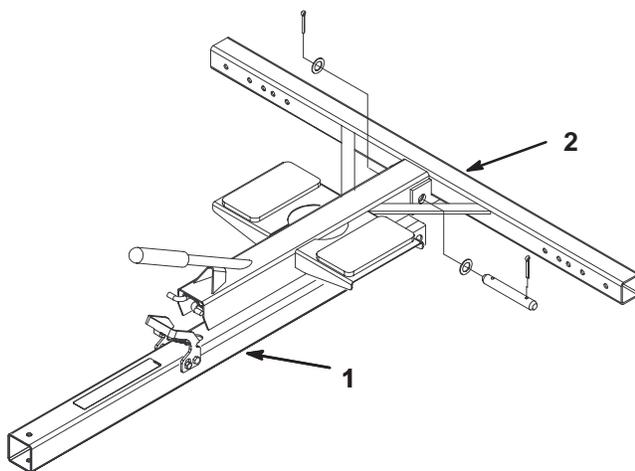

Figure 1
1. Insert tongue assembly into frame assembly while aligning rear mounting holes (Fig. 1).
2. Secure tongue assembly into frame assembly with a clevis pin, (2) washers and (2) cotter pins (Fig. 1).